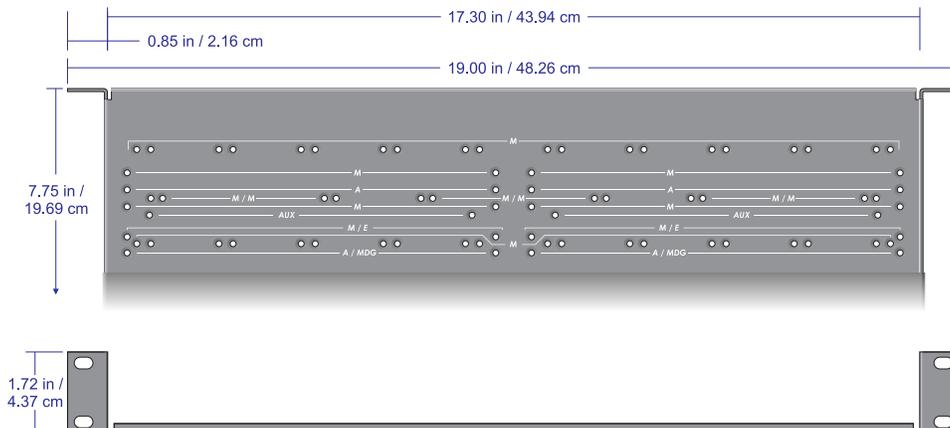

Figure 2-1 Rack Mounting Shelf
The optional rack mounting shelf (p/n QPX RAK) allows you to mount up to three (3) horizontal *QuadPlex* units in a 1RU space or 10 vertical *QuadPlex* units in a 3RU space. See Figure 2-1.